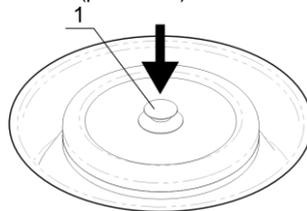

Figure 2. Installing the rotor lid
- Place the lid on the rotor and firmly press the holder down around the latch (fig. 2/1).
5.7. Place the rotor lid on the rotor and firmly press the lid holder down around the latch (fig. 2/1). Firmly press on the covering lid in two places over both hinges to close it. The clicking sound of the lock and the indication STOP with a lock icon in the lower line of the display (see figure 6) confirm that the lid is closed.